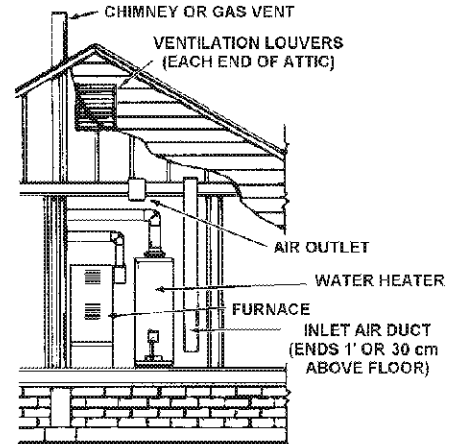

FIGURE 12.
- When directly communicating with the outdoors, each opening shall have a minimum free area of 1 square inch per 4,000 Btu per hour (5.5 cm²/kW) of total input rating of all equipment in the enclosure. See Figure 12.
- When communicating with the outdoors through vertical ducts, each opening shall have a minimum free area of 1 square inch per 4,000 BTU per hour (5.5 cm²/kW) of total input rating of all equipment in the enclosure. See Figure 12.